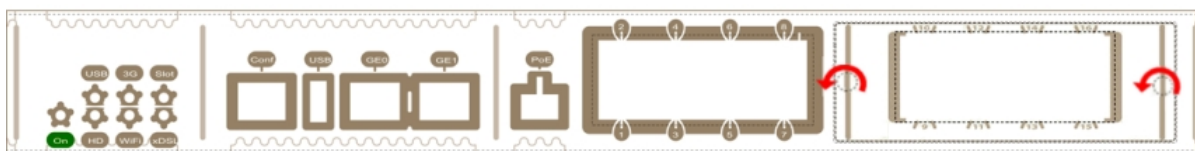

Fig. 12: Remove the cover from SLOT 1
- (6) Using a screwdriver, remove the cover over the expansion slot. This cover is located on the front panel. Please see Fig. 12 on page 10.